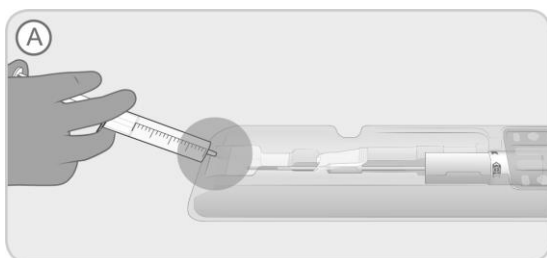

Figure 2. Fill tray recess with non-heparinised saline.
- A. Whilst the tray is lying flat on the sterile preparation area, fill the recess at the end of the tray (indicated on the tray with "A") with sterile non-heparinised saline solution (approximately 20 cc) to submerge the implant, Figure 2.